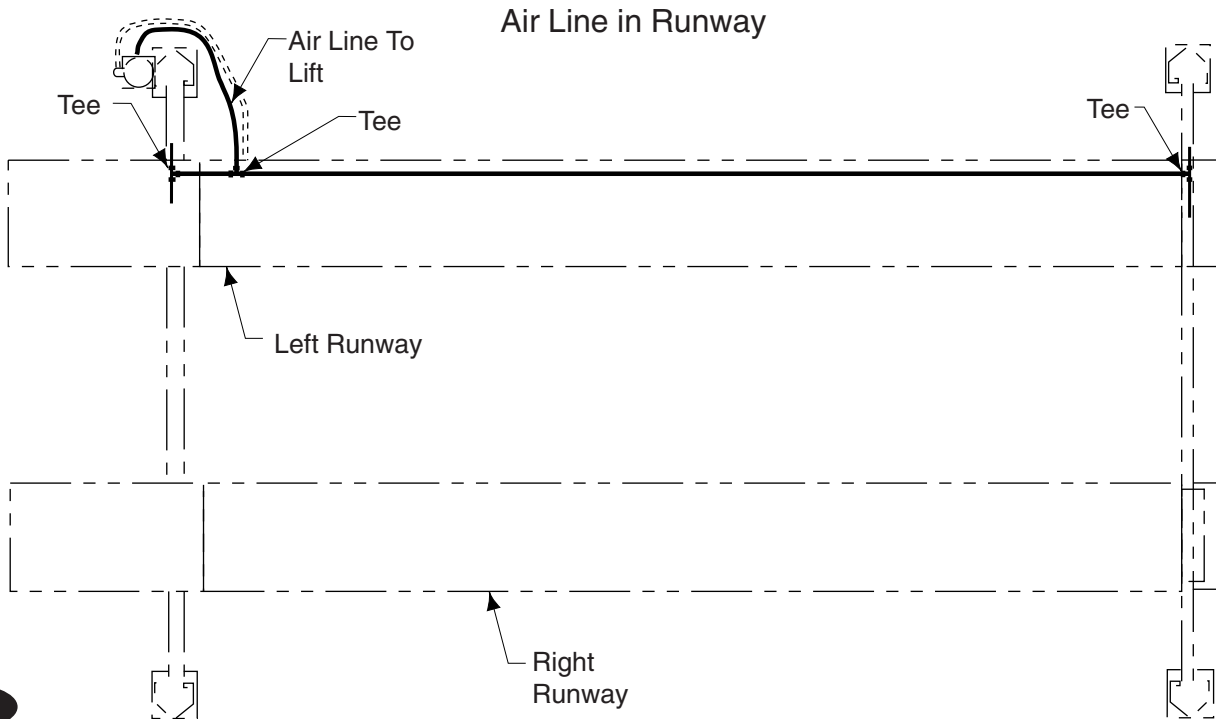

Fig. 7
- E. Insert each end of the left runway's $\frac{1}{4}$ " air line into the Tee's connecting the locking latch air cylinders in each yoke, Fig. 7.